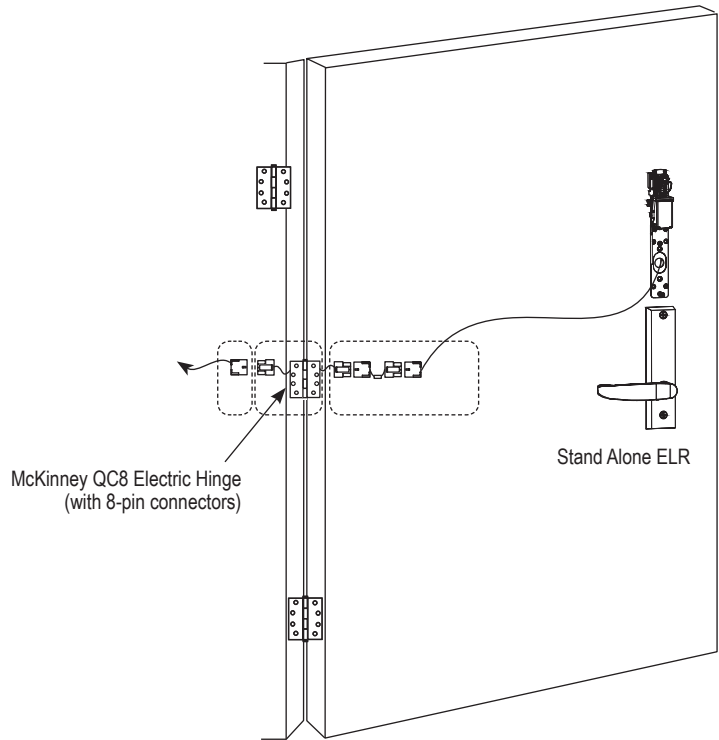

Fig. 16- TIMER MODE Installation
3. Connect the ElectroLynx harness in the door (Figure 16- ElectroLynx **TIMER MODE** Wiring):
Plug the 8-pin ElectroLynx connectors from the device into the ElectroLynx harness or splice into a non-ElectroLynx Harness (Figure 16- **TIMER MODE** Installation-next page).